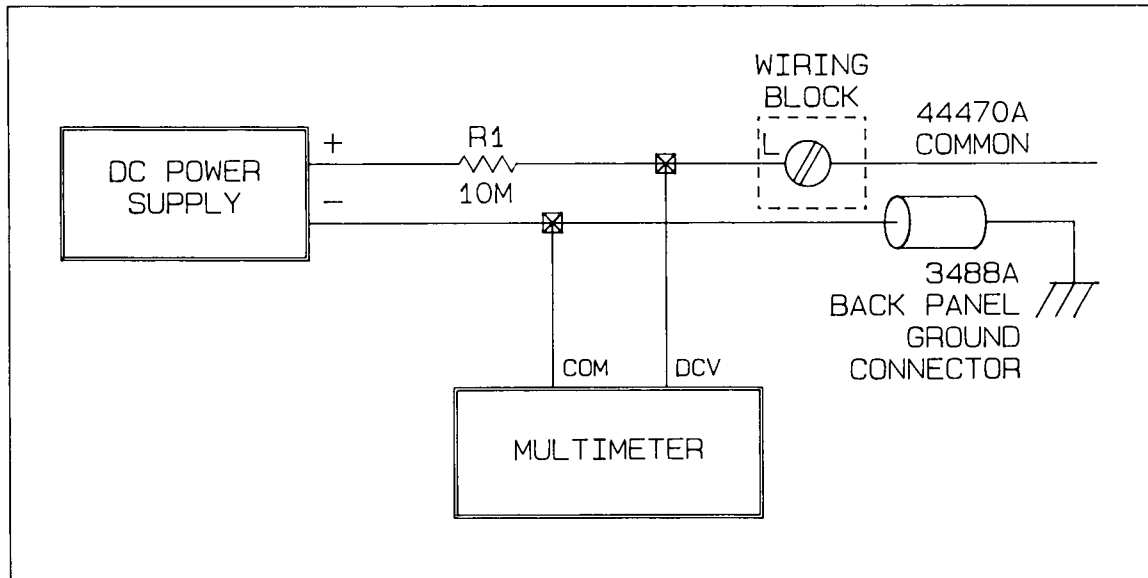

Figure 8-7 Common To Chassis DC Isolation
16. COMMON TO CHASSIS DC ISOLATION TEST: Connect the equipment to the 3488A back panel ground connector (chassis ground) and to the common low line connector as shown in Figure 8-7.